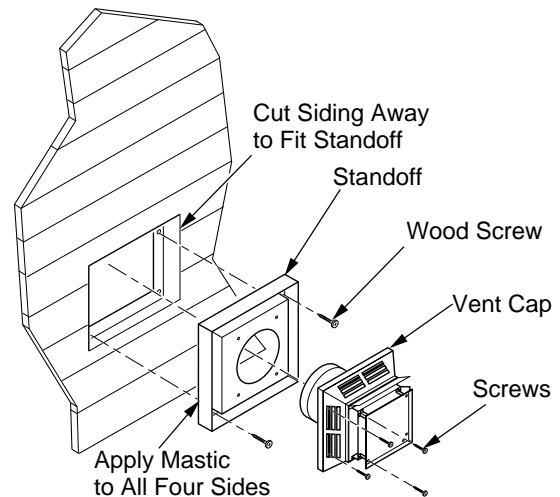

Figure 11 - Installing Siding Standoff (Combustible Exterior)
**Combustible Exterior Wall:** For vinyl siding, stucco, or wood exteriors, a siding standoff must be installed between the vent cap and exterior wall. The siding standoff prevents excessive heat from damaging the siding materials. Siding material must be cut to accommodate standoff. Bolt the vent cap to the standoff. Apply non-hardening mastic around outside edge of standoff. Position the standoff/cap assembly in the center of the 10 3/4" square hole and attach to exterior wall with wood screws provided (see Figure 11). The siding standoff must sit flush against the exterior fascia material.